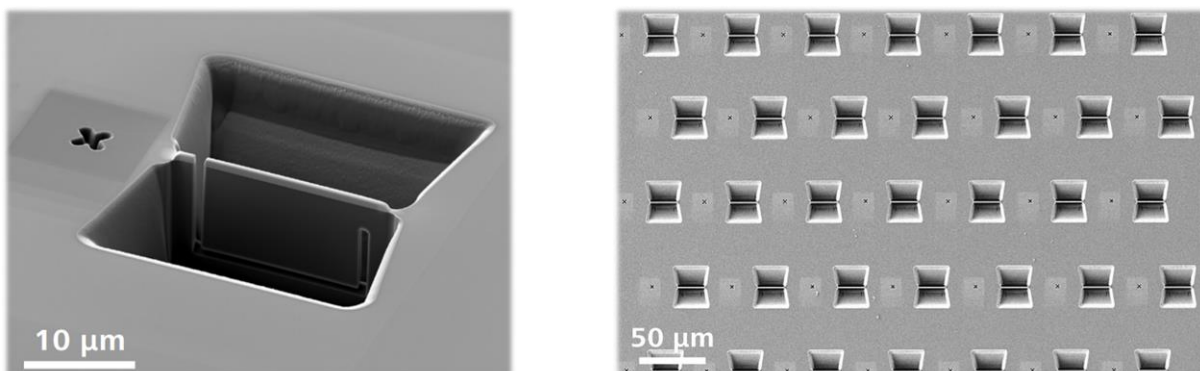

Figure 2 - TEM sample preparation (left) and an array of TEM lamellae prepared automatically (right)
- Lamellae sample preparation for use with the STEM detector or TEM instrument (see Figure 2). Lamellae samples can be used to study different phases from a specific area with high spatial resolution